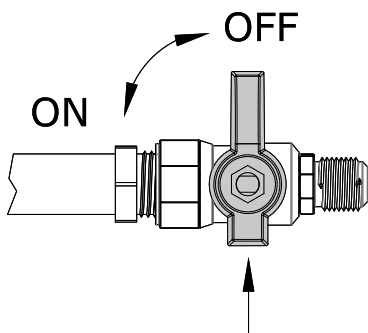

Figure 4.9 - Turn Off Gas
1. First locate the main shut-off valve upstream of the appliance connector and close the valve. Then disconnect the electrical power of the fireplace. Figure 4.9.